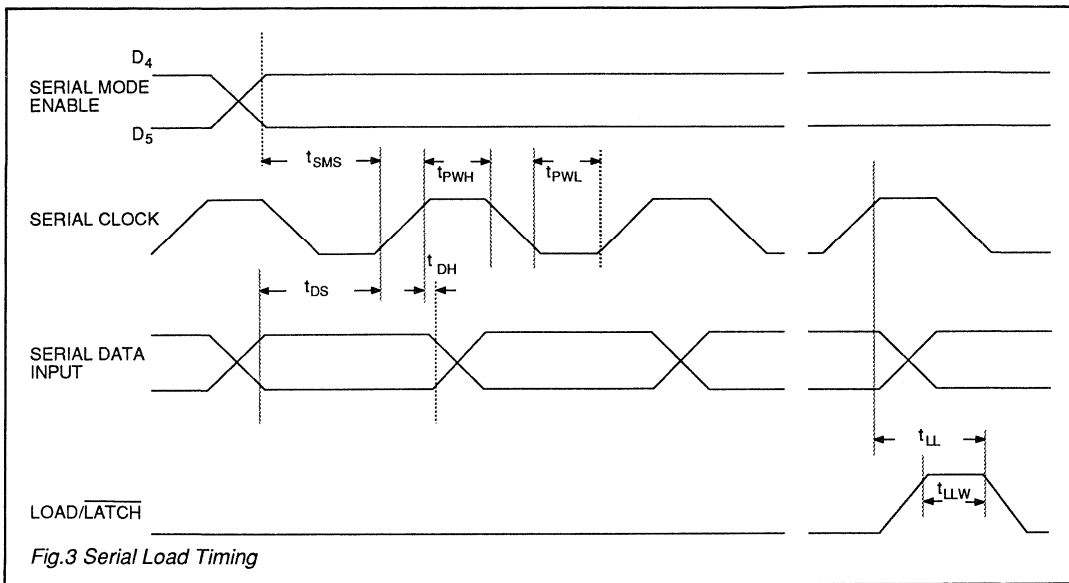
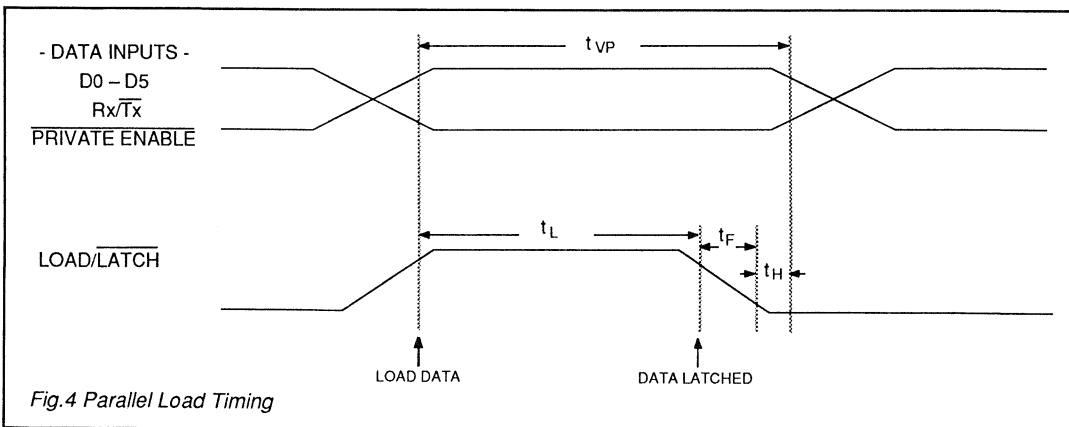

Fig.3 Serial Load Timing
Fig.4 Parallel Load Timing
'0 – 1 – 0' is a strobe pulse as shown in figures 3 and 4 (Timing).
**Timing Information ...** Control instructions are input to the FX375 by serial (figure 3) or parallel (figure 4) means, using Data Inputs and Load/Latch as shown in the diagrams below.
Serial Figure 3
Parallel Figure 4
**Serial Loading Sequence :** With Load/Latch at logic '0' serial data is loaded in the sequence :-  $D_5, D_4, D_3, D_2, D_1, D_0, Rx/Tx, Private Enable$ . When these 8 bits have been clocked in on the rising clock edge, data is latched by strobing the Load/Latch input - "0 - 1 - 0" (Figure 3).